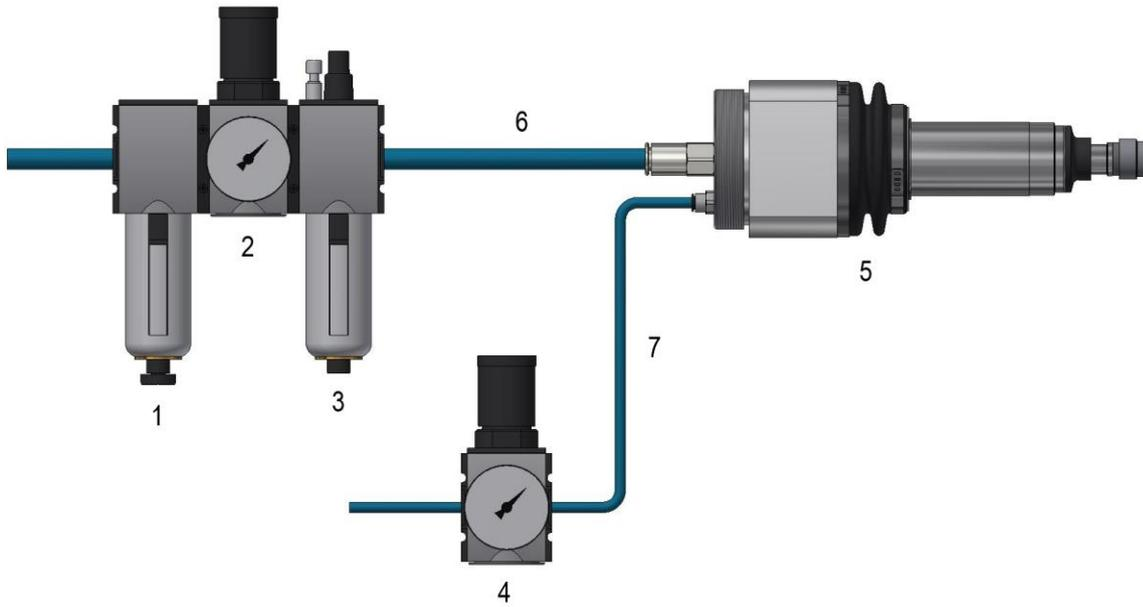

Figure 1 – Connection of radially compensated robot spindle
- The machine must be connected as shown in Figure 1, 2 or 3.